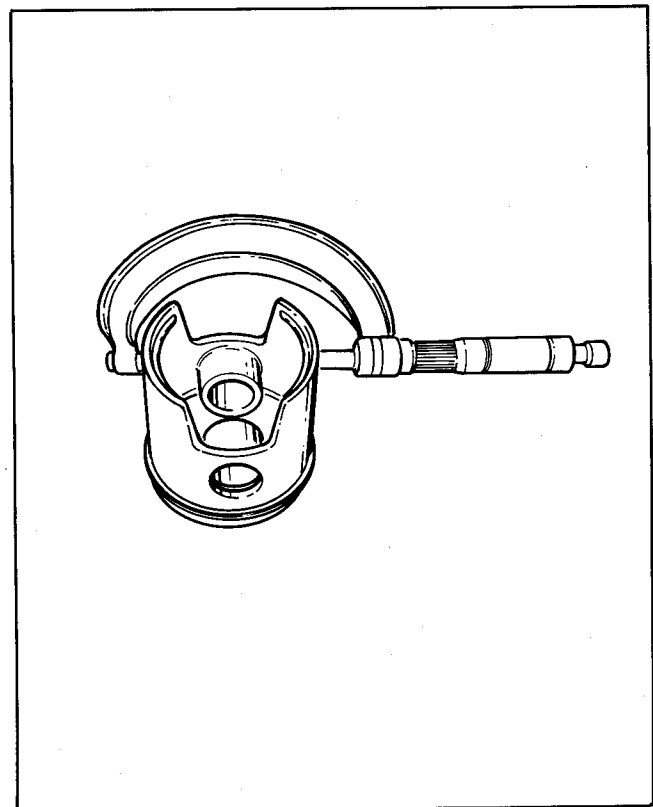

Figure 7-10 – Measuring Piston
- d. See Figure 7-10. Measure piston at bottom of skirt, 90° from piston pin bore.